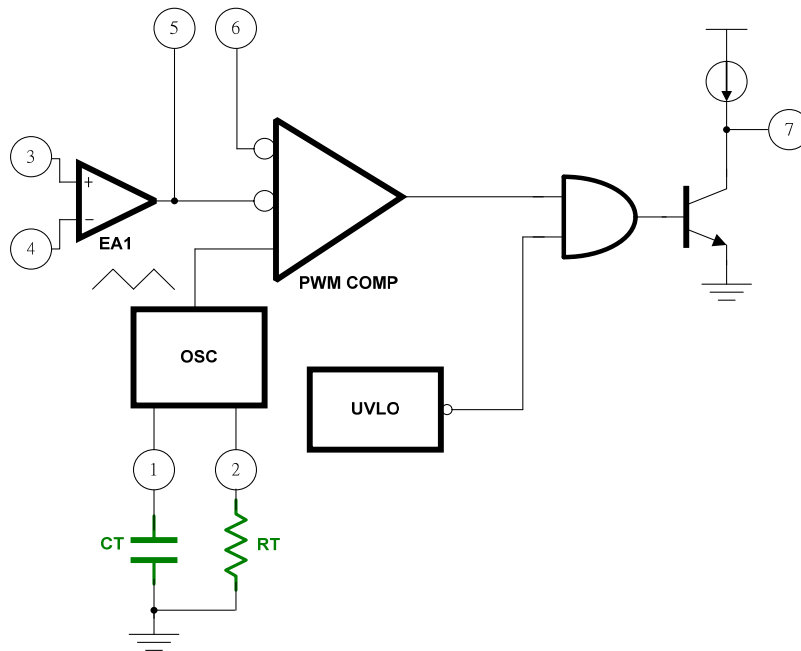

Figure 16 Oscillator / PWM Comparator with Frequency RC Circuits
The oscillator frequency can be adjusted from 20KHz to 1.2MHz by the capacitor (CT) and resistor (RT) which are connected to pin 1 and pin 2 of FP5453 respectively. A sawtooth waveform would compare with output signal of the error amplifier and duty control voltage. Figure 16 shows the relationship of oscillator, error amplifier and PWM comparator. Figure 17 shows the FP5453 pin waveforms.